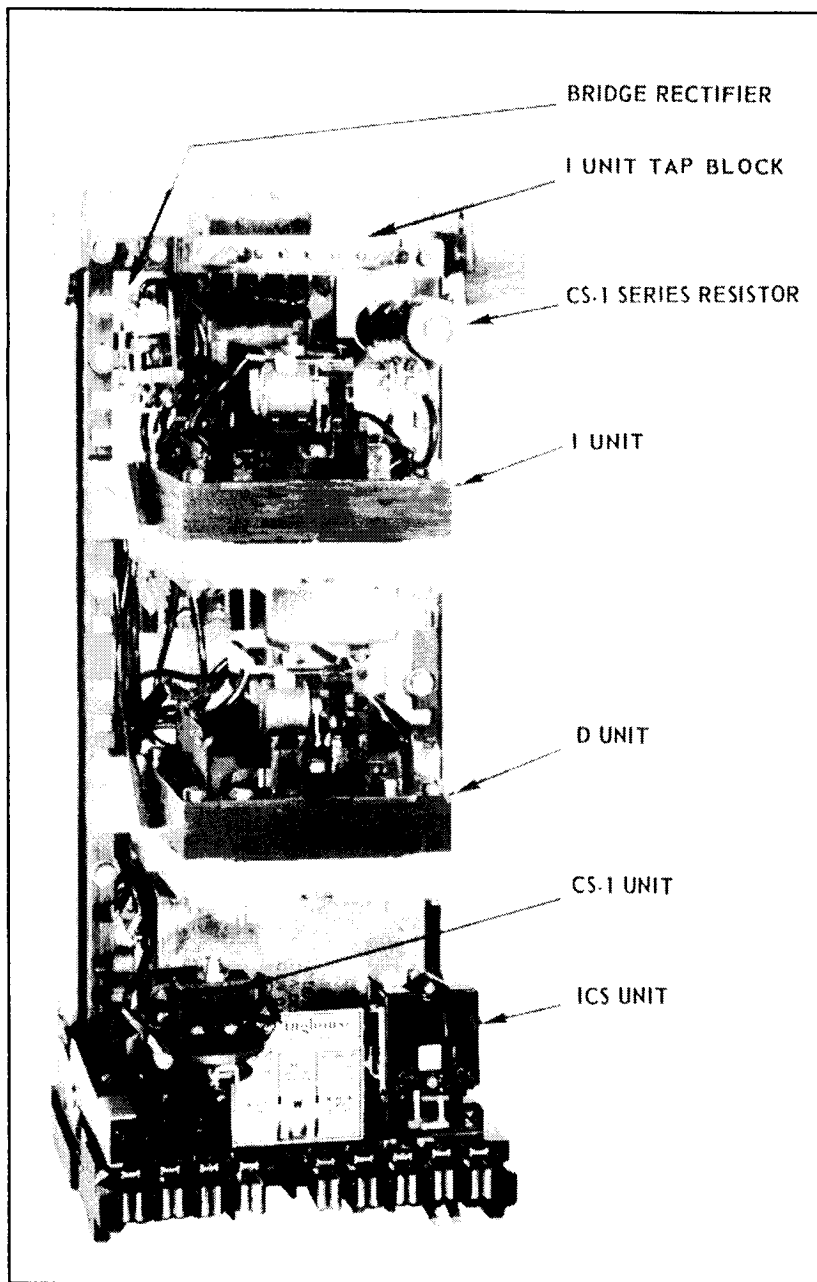

Figure 1. Type KRV Relay Without Case (Front View)
The Type KRV relay consists of a directional unit (D), an auxiliary switch (CS-1), an instantaneous unit (I), an instantaneous overcurrent unit transformer, and an indicating contactor switch (ICS). The principle component parts of the relay and their location are shown in Figures 1 and 2.
2.1 Directional Unit (D)